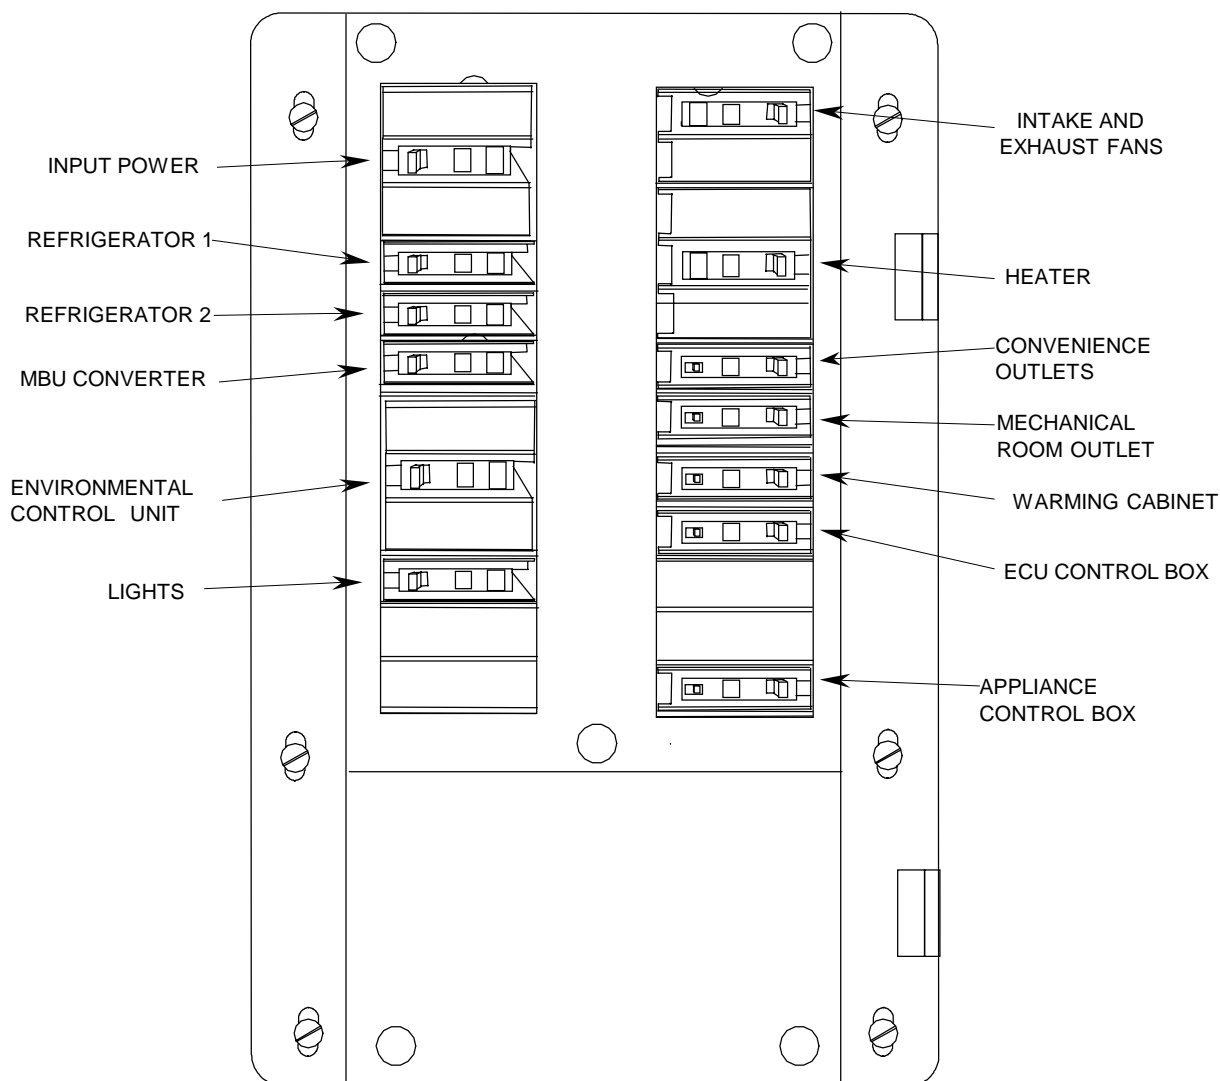

Figure 2. Power Distribution Panel.
The Power Distribution Panel (PDP), Figure 2, is located on the mechanical room wall in the serving area. The panel houses the circuit breakers that control the distribution of electrical power within the kitchen. The circuit breakers are normally closed (ON) and are only opened (turned OFF) to isolate circuits for maintenance or troubleshooting. If an electrical malfunction occurs, the breaker in the affected circuit trips (opens) to isolate the affected circuit.